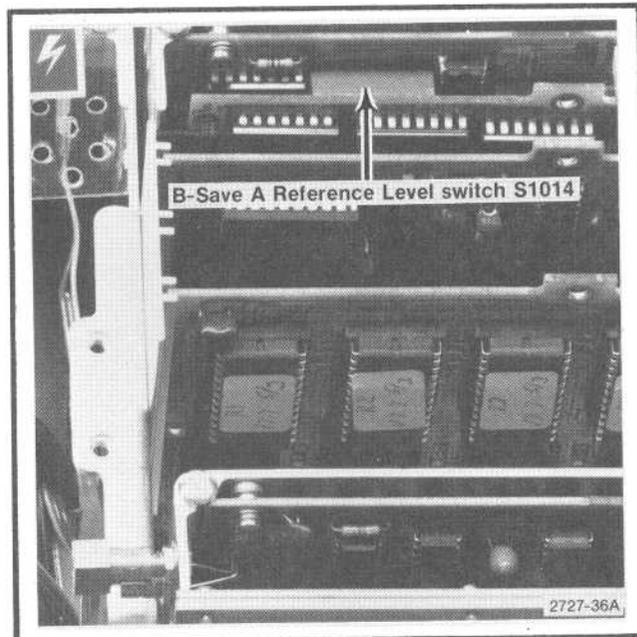

Fig. 3-43. Location of binary switch (S1014) for setting B—SAVE A reference level.
When B—SAVE A is selected, the expression implemented is $(B - \text{SAVE } A) - k$ where k is a constant set by the input data for an 8-to-4 line encoder, U1015. Each bit will move the reference level about 0.2 minor division. Normally, the reference level is set at the center graticule line; however, it can be set anywhere within the graticule area by the setting of an 8-bit binary switch, S1014 (Fig. 3-43). The MSB (switch #8) shifts the display about five divisions, switch #7 half this amount, etc. The following procedure sets the reference level.
b. Switch the POWER on and close or open the switches on S1014 (Fig. 3-43) to obtain the desired B—SAVE A reference level.